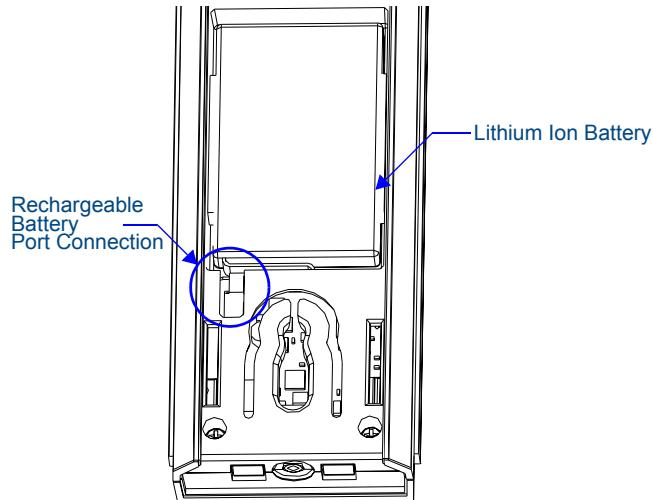

FIG. 8 Rechargeable Battery Port on The MIO Remote
6. Place the new housing on the device so that the rechargeable battery port connection is now accessible. See FIG. 8.
8. Connect the terminal end of the Lithium-Ion battery to the port shown in FIG. 8. It may be necessary to use a thin, blunt object to fully seat the battery connector within its port.